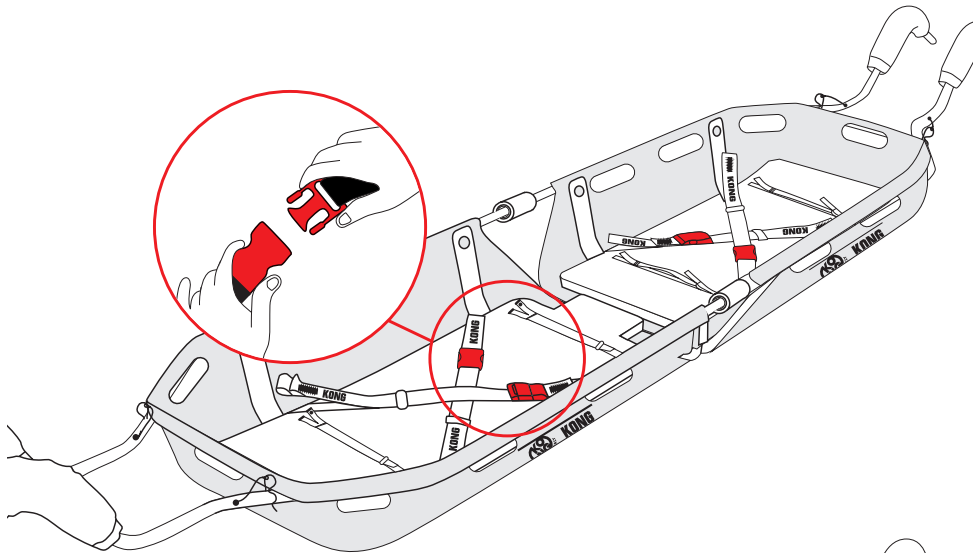

Fig.12
- Unhook the buckles and open the securing straps (Fig. 12),